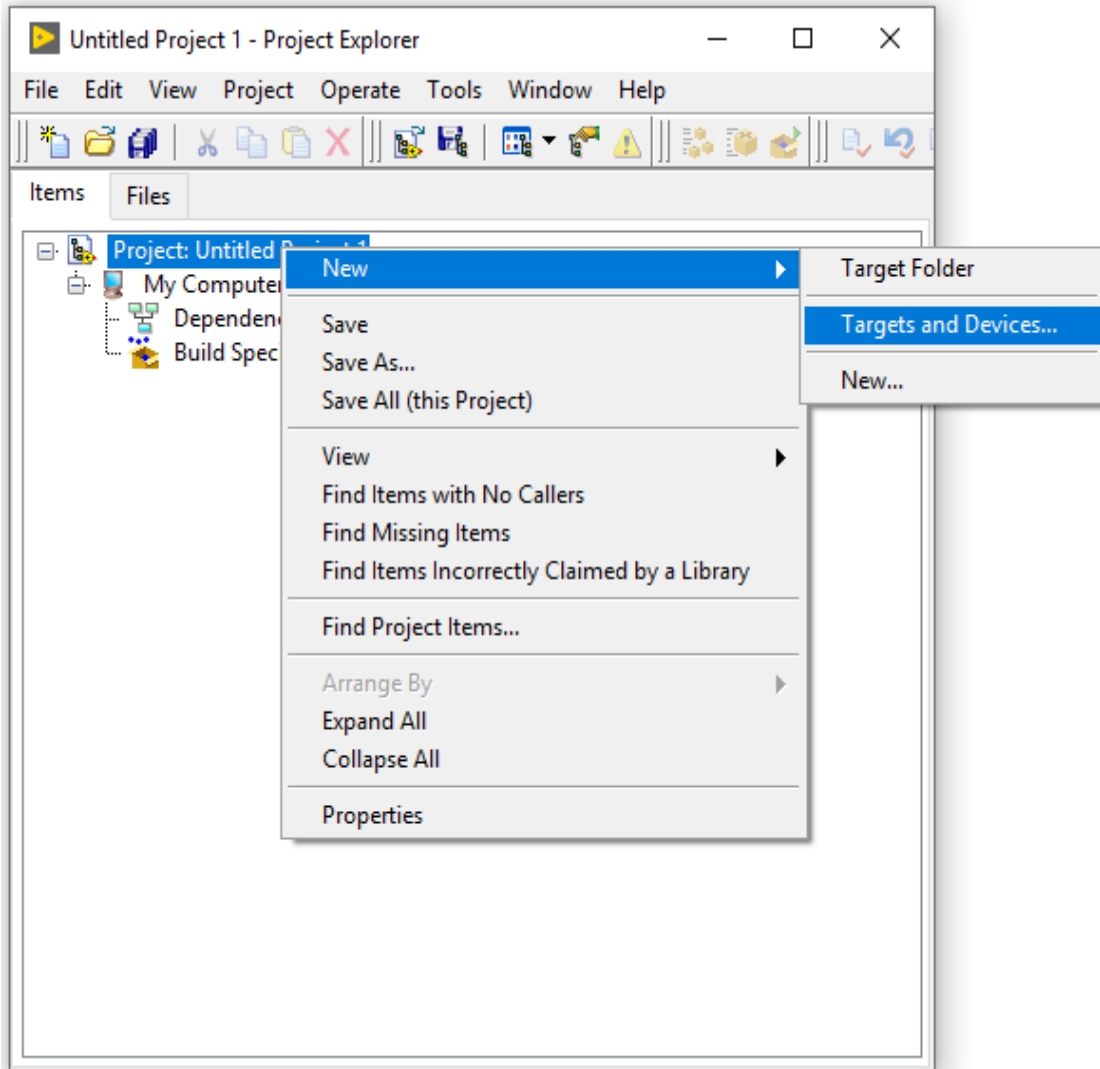

Fig. 2: Quick Start – Add new target
10. The configuration is completed. After a successful discovering the project explorer window should look similar to figure 2.